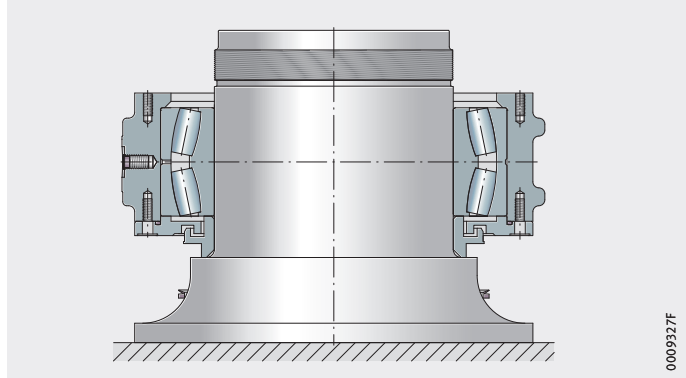

Figure 12
- ▶ Slide the heated bearing housing over the cooled spherical roller bearing with coaxial alignment to the shaft, *Figure 12*. Avoid any damage to the housing cover and labyrinth ring.